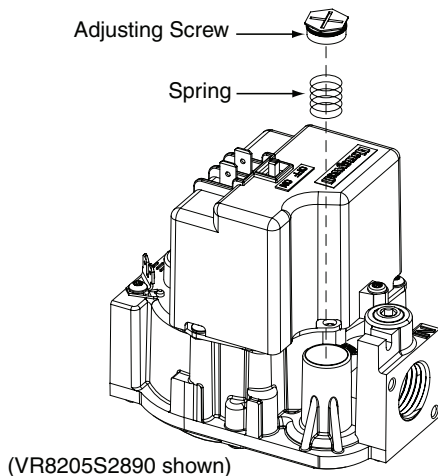

Figure 3. Pressure Regulator Spring & Adjustment Screw Removal
2. Remove and discard the plastic pressure regulator adjustment screw from the gas valve. See Figure 3.